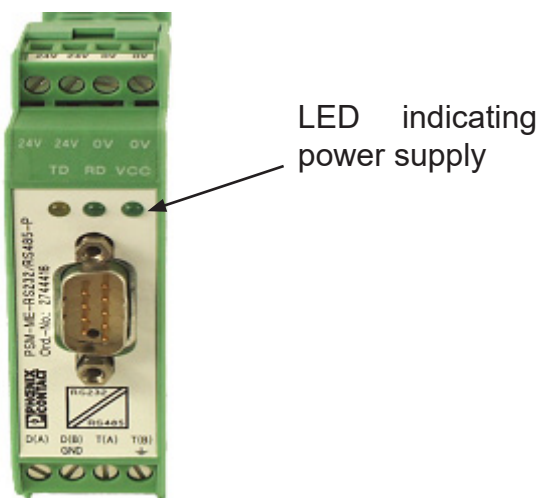

Fig. 6.1 RS-485 converter, LED indicating power supply
- 5a. green power light on (see Fig.6.1)